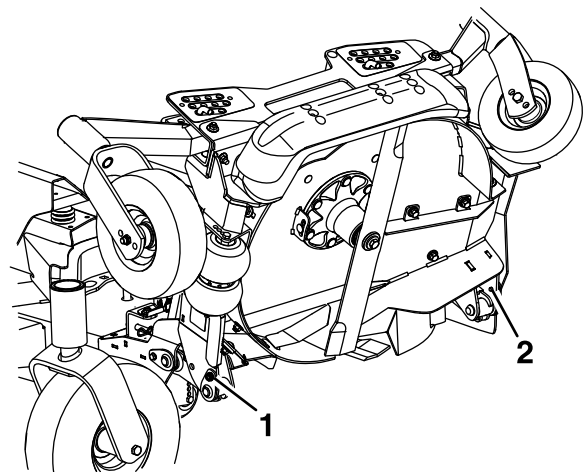
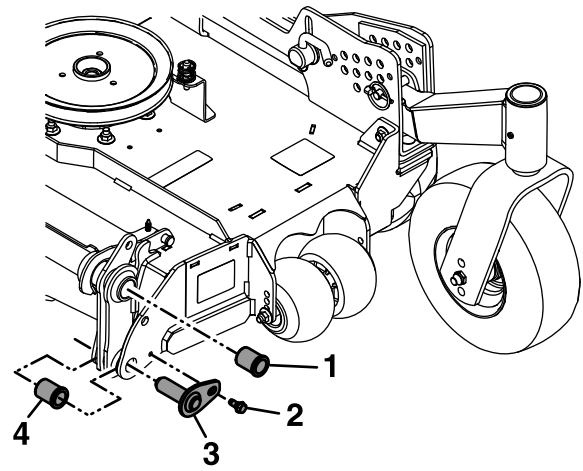

Figure 83
Figure 86
7. Loosen the bolts that secure the upper pivot pins to the deck but **do not** remove the bolts (Figure 83).
14. Remove the flanged bushings from the upper pivot points and clean the bore (Figure 86).
- 18. Remove and retain the lower pivot point bolts (Figure 83 and Figure 86).